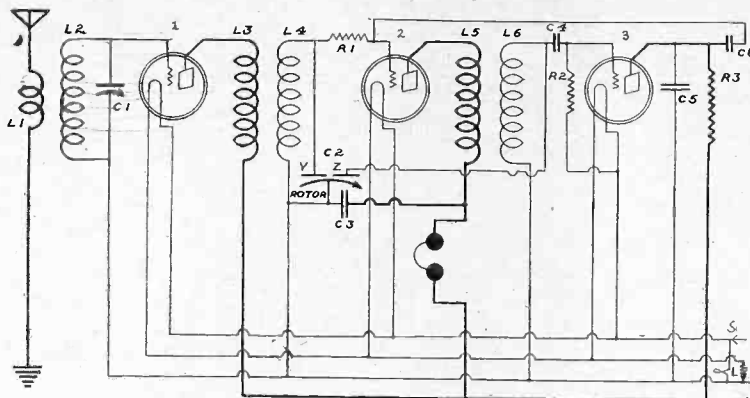

FIG. 1
The chief difficulty lies in proceeding from the first reflexed stage (first audio) to the next audio stage. Everything is all right—or nearly so—when you go as far as shown in Fig 1. Tube (1) is an unmolested stage of tuned RF. Tube (2) is the second tuned R F stage, about which more later, while tube (3) is the detector, with tuned input. Now, the output of the detector (rectified component) is connected to B+ through the usual plate resistor, R3, say 100,000 ohms. C6 is the isolating condenser that keeps the B positive off the succeeding grid. This ensuing grid, however, is that of the second RF stage. Instead of going on to the next grid you go back to the preceding one. Be careful this connection is made to the G post and that the grid leak R1, say .5 meg., is not in the tuned part of the circuit. In other words, follow Fig. 1 closely.
Anyway, the Fig. 1 circuit worked very well. No howl, no trouble, no problems.